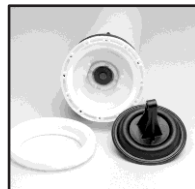

Figure 3.
3. Push the pressure cylinder approximately 1/2" out of the bottom of the tank. Then turn the pump assy. 180 degrees. Note: Wooden block may be used to tap the pump assembly through bottom of tank. Remove pressure regulating valve, if equipped before removal of cylinder. Figure 3.
4. Next remove the 12 torx screws that hold the flange in place. The flange and diaphragm can then be removed. Figure 3. Note: For clarity the pressure cylinder is shown removed from the tank.